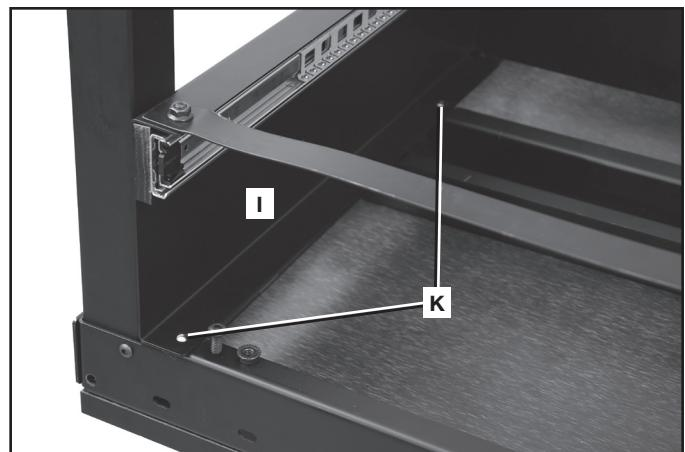
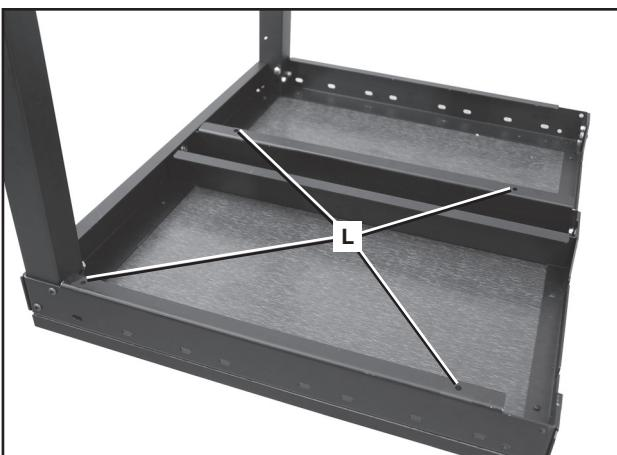

FIG. 6
FIG. 7
Turn drawer frame (I) upside down (as shown in Fig. 6) and line up four holes in drawer frame — two shown at (K) Fig. 6 — with the four holes (L) Fig. 7 in the bottom of the extension table.
Attach the frame to the bracket using four 1/4-20 x 1/2" (13 mm) hex socket button head cap screws and 1/4-20 flange nuts. Insert the screws down through hole (K) Fig. 6 and tighten underneath with flange nut.